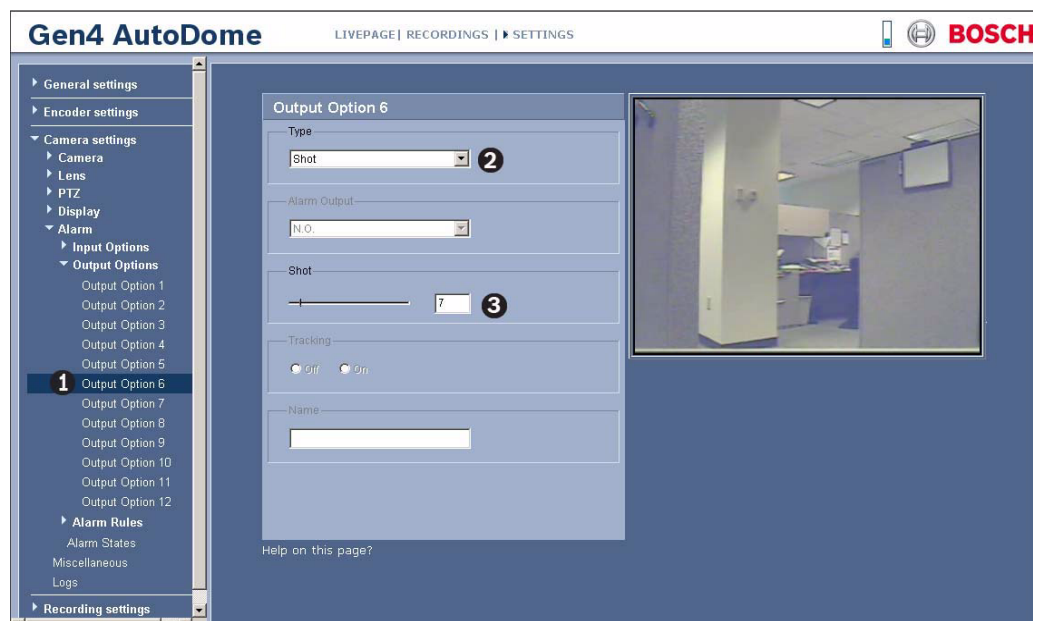

Figure 8.36 Output Option 6 Example
4. Select **Output Option 6** (see *Figure 8.36* below).